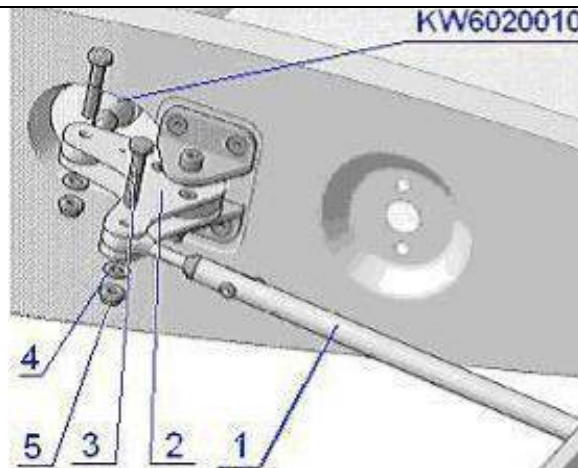

Fig. 57-52-7
8	Set the external bellcrank (2) KA6020040 so that the line between the rod (1) attachment hole and bellcrank axle of rotation is perpendicular to the root rib (Fig. 57-52-7). At the same time the internal bellcrank must be set so that the line between the rod KW6020010 mounting hole and bellcrank axle of rotation is parallel to the rib of the wing.